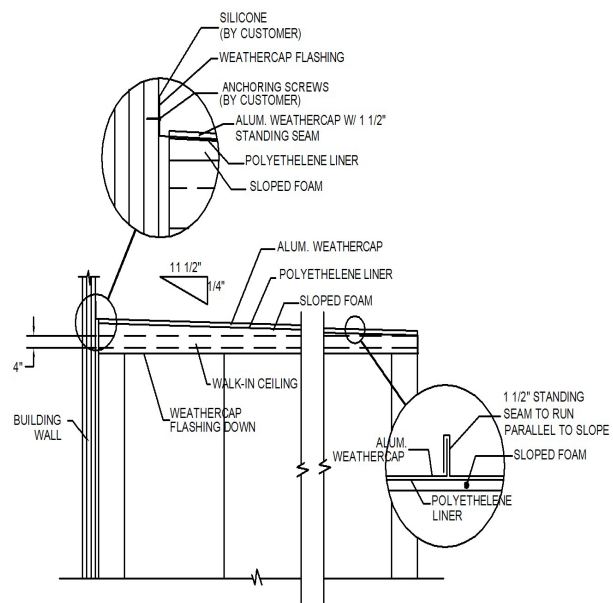

FIGURE 17 - SLOPED ALUMINUM WEATHERCAP
2. Clean and seal the ceiling panels and attach the sloped foam to the ceiling panels (Refer to Figure 17 on Page 10).